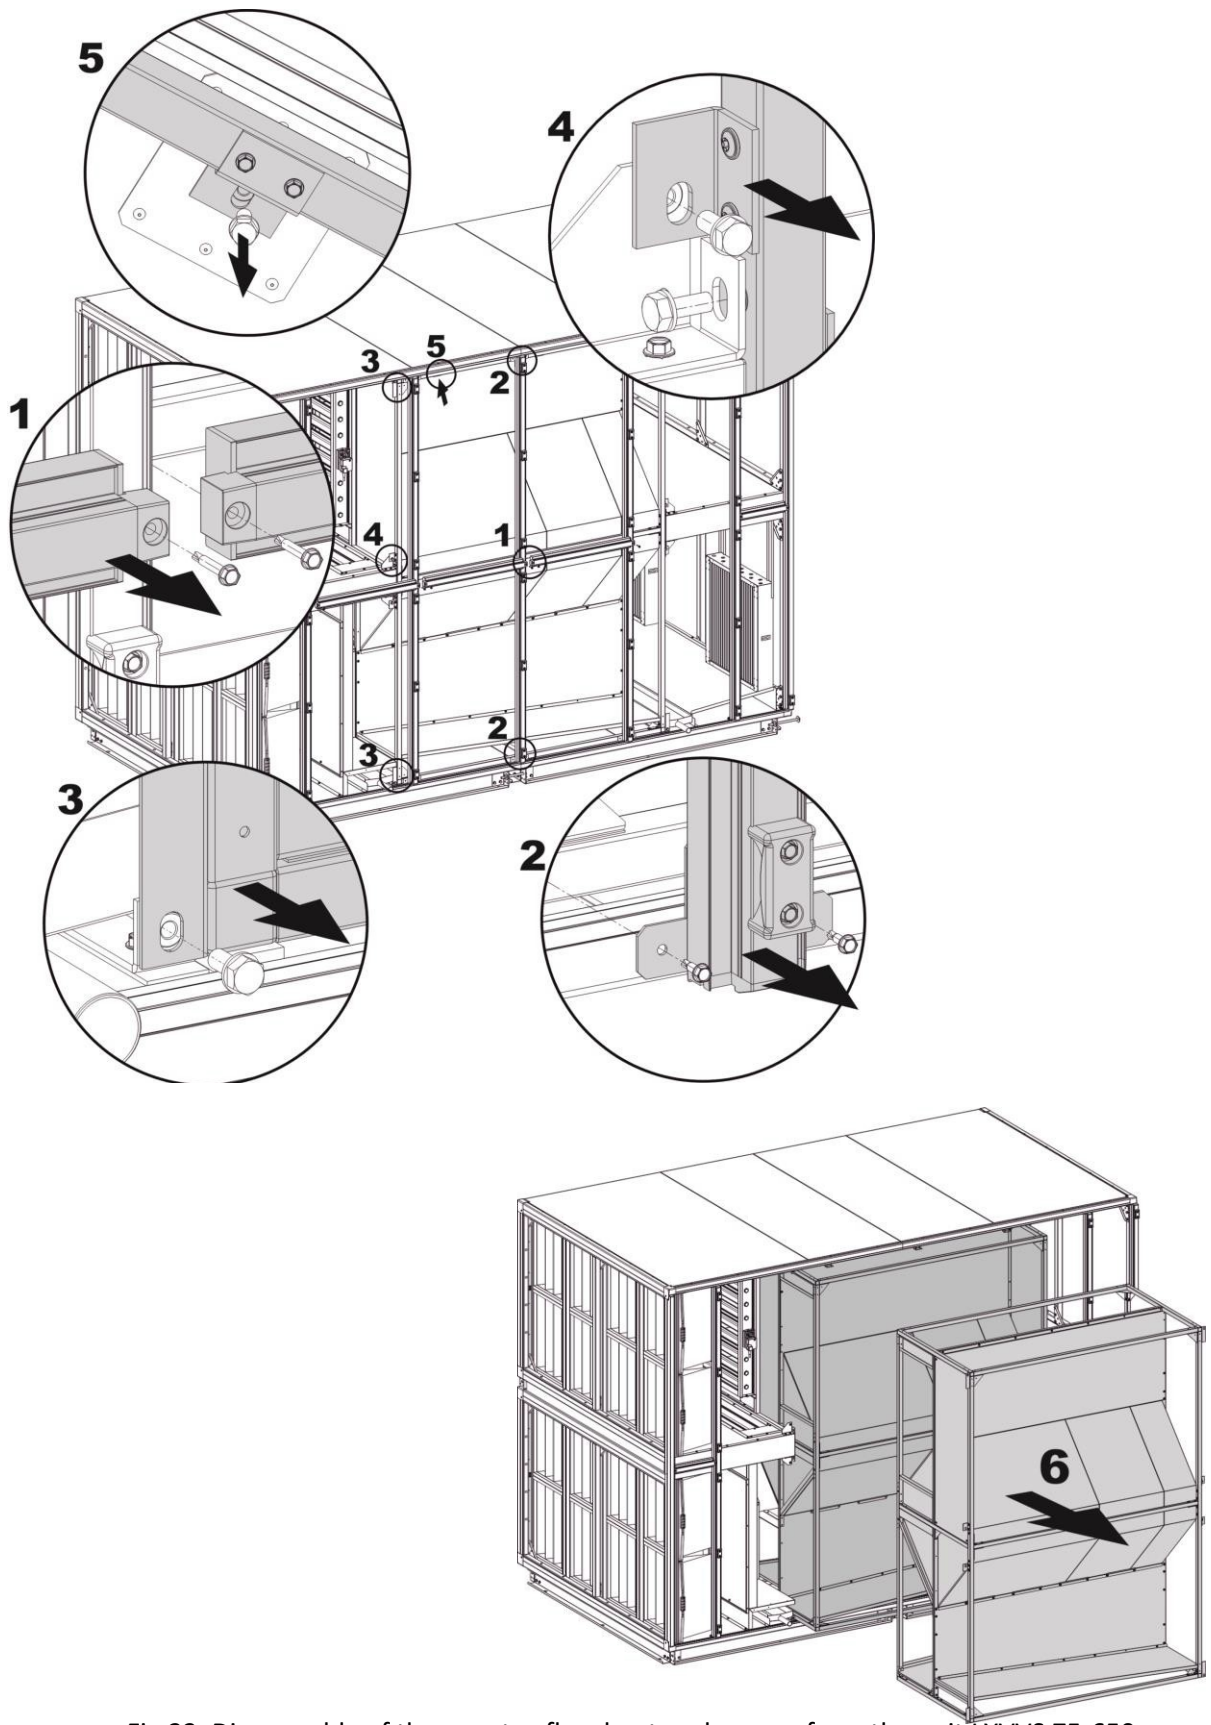

Fig.23. Disassembly of the counter-flow heat exchangers from the unit LXVVS 75-650
- 1) Unscrew the screws fixing horizontal columns (pos.1. fig.23) and remove them
- 2) Unscrew the screws fixing vertical columns at the top and bottom (pos.2. fig.23) and remove them from the unit
- 3) Unscrew the bolts fixing the exchanger cage. Bolts are placed at the top and bottom (pos.3. fig.23) and the middle (pos. 4. fig.23) part of the AHU. In the units LXVVS 75-230 is additional fixing to the ceiling (pos.5. fig.23).
- 4) Remove exchanger cage from AHU (pos.6. fig.23).